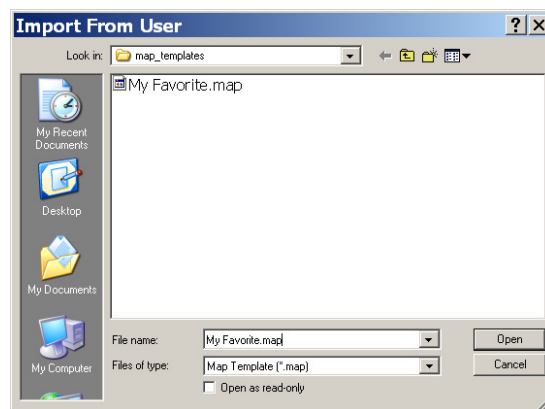

Figure 6. File | Import Map Dialog
- **File | Import** displays the **Import From User** dialog shown in Figure 6. Simply select the desired *map* file from those listed and click the **Open** button. Alternatively, you may simply double-click a file. The *map* file you select is copied into the **[project]\maps** directory. This is handy when you want to use a *map* file between two or more projects. As shown in Figure 6,